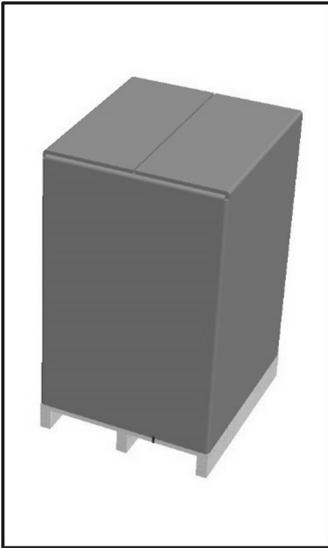

Fig. 10: Removing ca
- Remove staples and remove the carton (Fig. 10)